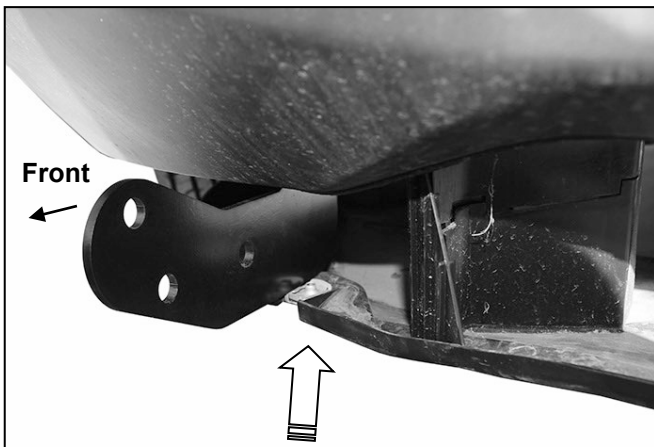

Fig 17) Hold the splash guard up to the bottom of the Brackets. Trace location of Brackets onto back of the plastic cover and cut to clear brackets
11. Hold the plastic splash guard up to the bottom of the Mounting Brackets, **(Figure 17)**. Trace the location of the Brackets onto the inside of the plastic cover. Use a sharp knife or hacksaw blade to cut out the sections from the cover. Reinstall the splash guard using the factory hardware.
12. Reinstall the license plate bracket over the Support Bracket. On models with bracket held on with rivets, use the included (3) ST6x20mm Screws to reattach the license plate bracket.